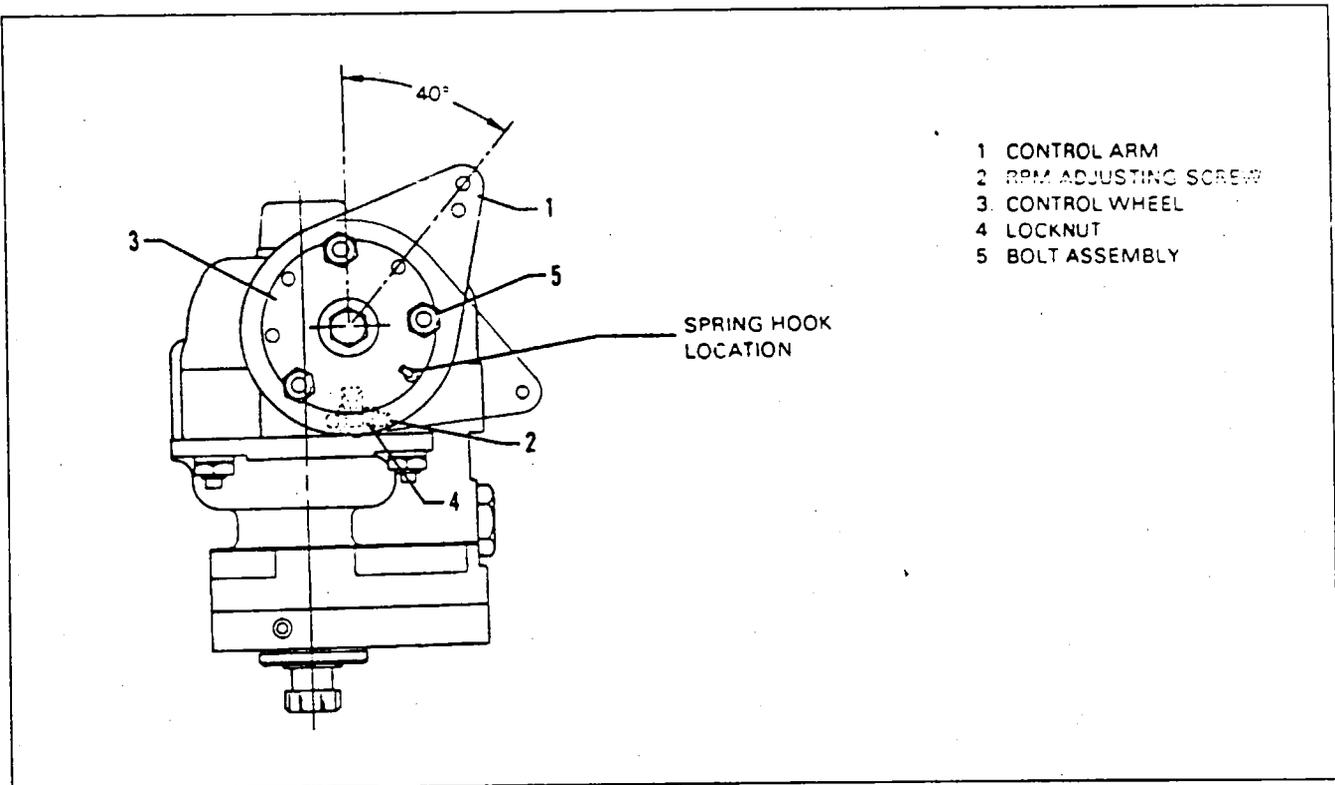

Figure 61-3. Propeller Governor
**RIGGING AND ADJUSTMENT OF PROPELLER GOVERNOR.** (Refer to Figure 61-3.)
- E. Ascertain that the governor control arm is adjusted to the proper angle on the control wheel as shown in Figure 61-3.